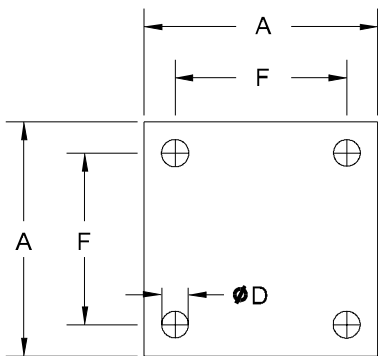

FIG. 7: BASE AND TOP PLATE DIMENSIONS
- Step 2. To assist in the installation of the anchor bolts we recommend creating a template using the thru hole diameters of the base plate and the center distances that appear on the base and top plate mounting dimensions. (See Figs. 7 & 8)